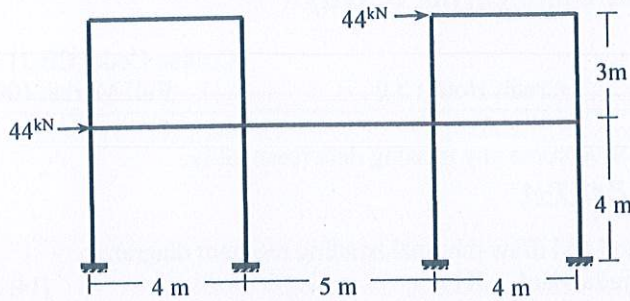

Fig.5
5. Analyze the frame shown in shown in **Fig.5** by Cantilever Method to draw the axial force and moment diagram of columns. [10]